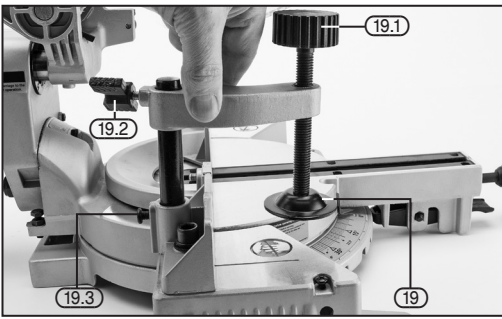

FIG. 5
6.5 WORKPIECE VICE – FIG.5
- The workpiece vice (19) can be attached either side of the table on the rear fence.